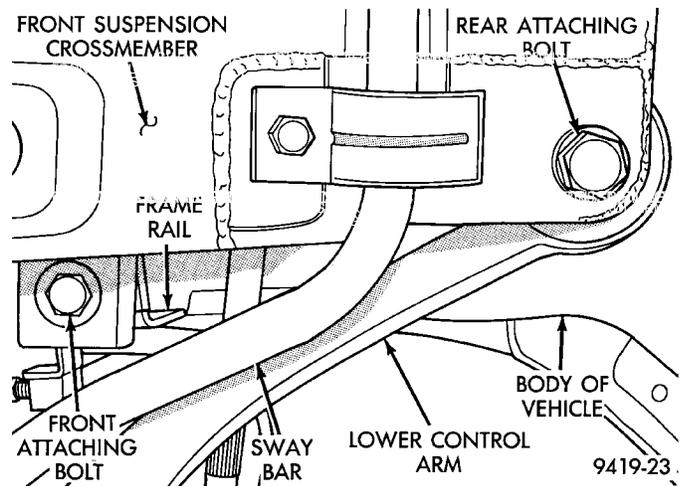
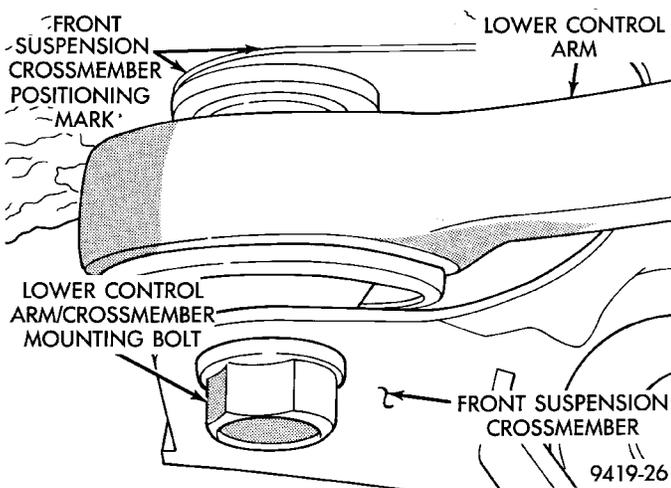

Fig. 13 Front Suspension Crossmember Mounting Bolts
Fig. 16 Crossmember Aligned With Positioning Marks
(12) Loosen and fully remove the front 2 bolts (Fig. 13) attaching front suspension crossmember to frame rails of vehicle. Then loosen the 2 rear bolts (Fig. 13)
(2) Using the transmission jack, raise front suspension crossmember and steering gear against body and frame rails of vehicle. Start the 2 rear bolts into tapping plates, attaching front suspension crossmember to body of vehicle (Fig. 13). Then install the 2 front bolts, attaching front suspension crossmember to frame rails of vehicle (Fig. 13). Tighten the 4 mounting bolts, until front suspension crossmember is against body of vehicle at the 4 mounting points. Then torque the 4 mounting bolts to 2 N-m (20 in. lbs.) to hold front suspension crossmember in position.
CAUTION: When front suspension crossmember is installed back in vehicle, crossmember **MUST** be aligned with positioning marks previously scribed into body of vehicle (Fig. 16). This **MUST** be done to maintain NET BUILD front suspension alignment settings.
(3) Using a soft face hammer, tap front suspension crossmember into position, until it is aligned with the 2 previously scribed positioning marks on body of vehicle (Fig. 16). When front suspension crossmember is correctly positioned, torque the 2 rear crossmember/lower control arm mounting bolts to 163 N-m (120 ft. lbs.). Then torque the 2 front crossmember to frame rail attaching bolts to 163 N-m (120 ft. lbs.) (Fig. 13).